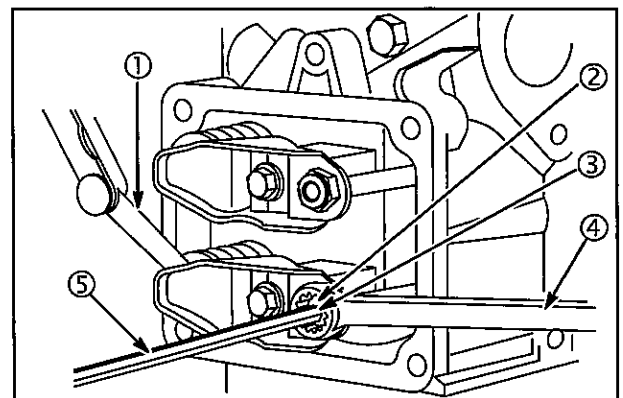

Fig. 49
3. If the valve clearance requires adjustment, loosen the lock nut (2) with a wrench (4). Use a hex wrench (5) to turn the adjusting screw (3) to adjust the valves, **Fig. 49**.